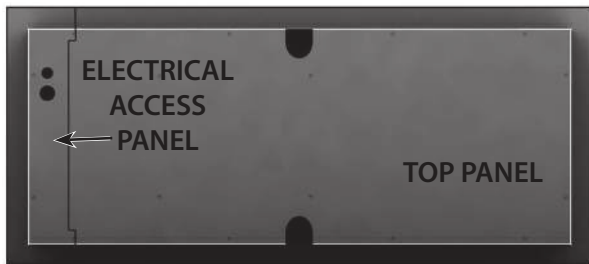

Figure 1
3. Place bottle probe securely into bottle as seen in Figure 1.
5. To ensure a consistent temperature, place bottle probe approximately three (3) feet away from the air output and not in the flow of the air.